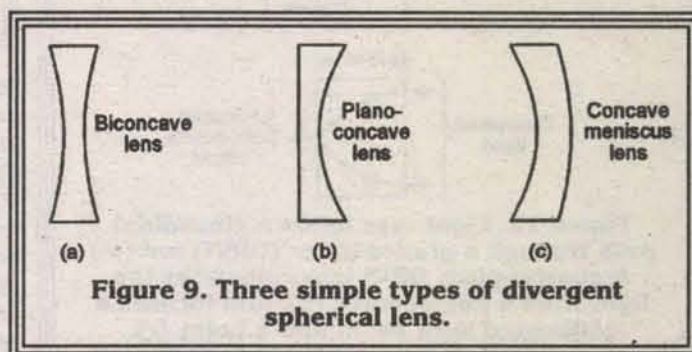

Figure 9. Three simple types of divergent spherical lens.
Figure 9 shows three simple
ferent way to a normal lens. A GRIN rod is a glass or fiber rod that has a refractive index that decreases progressively with distance from the rod axis. This index variation causes light rays to follow a sinusoidal path as they travel along the rod, as shown in Figure 9(a). The length of one complete sinusoidal cycle in the rod is called the *pitch* (P) of the rod; the P value is determined mainly by the rod's diameter and refractive index profile; the value is typically about 20mm.